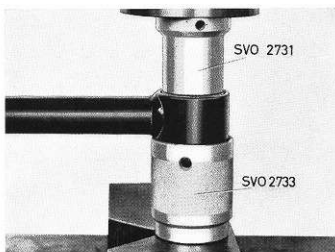
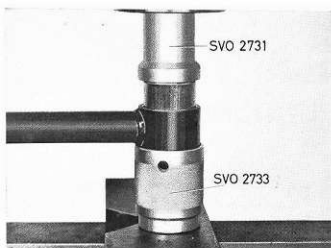

Fig. 7-13. Removing large bush, track bar
Fig. 7-14. Fitting large bush, track bar
5. The large bushes are pressed out with 2731, and 2733 as a counterhold (Fig. 7-13). When pressing in the bushes, 2731 is reversed (Fig. 7-14).
6. Fit the bar with the screw to the frame bracket (12).
7. Place the other end on the rear axle bracket (6) and fit both washer and nut. Screw on the frame bracket nut.